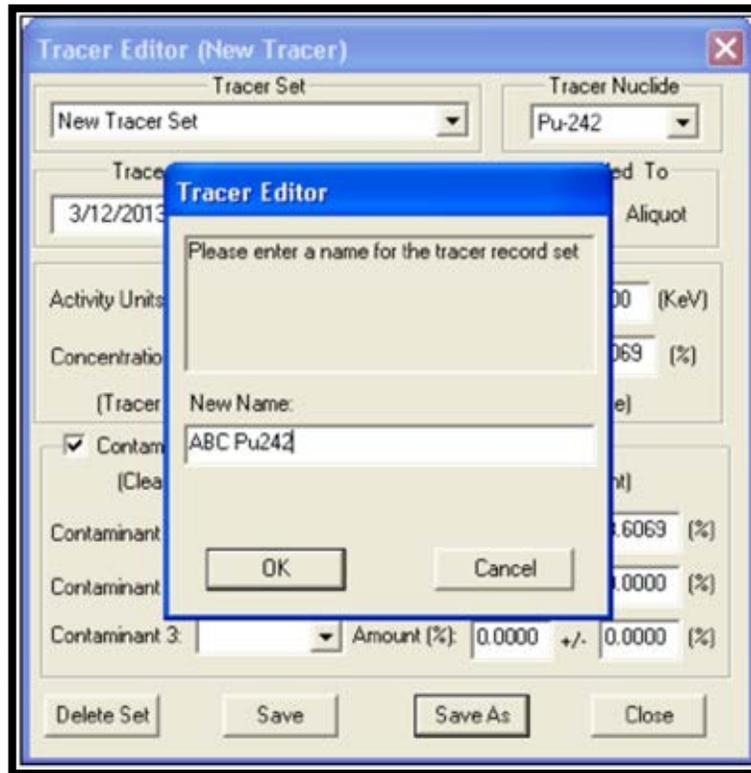

Figure 65. Name Tracer Set
- 8) The last step is to name the new Tracer Set. Click **Save As** and assign a unique **New Name** to the new record (Figure 65).